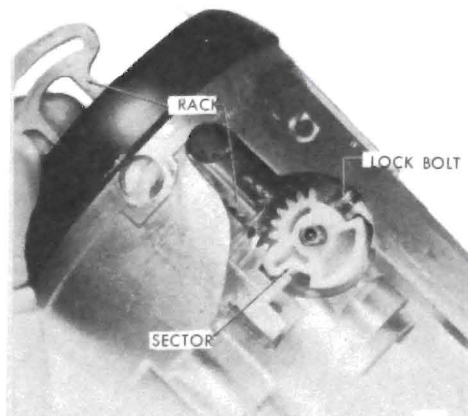

Figure 90-147 - Engaging Block Tooth on Rack to Sector
5. Install lock bolt and engage with sector cam surface. See Figure 90-147.